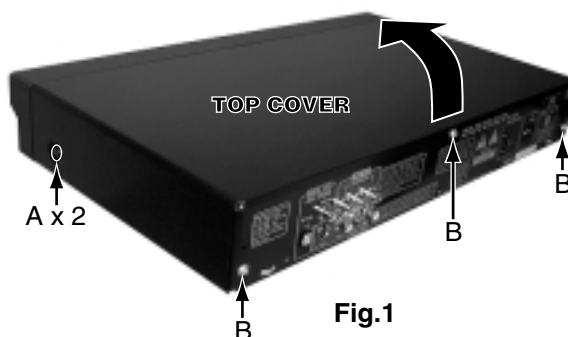

Fig.1
■ Removing the top cover (see Fig.1)